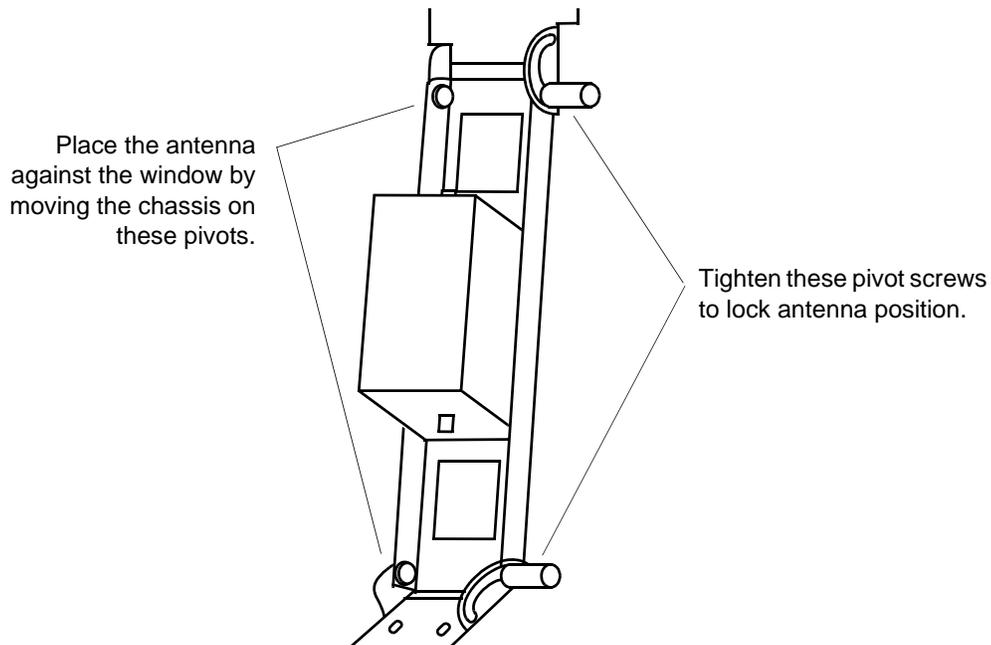

Figure 3-4 Mechanical Window Antenna Pivot Screws
3.	Tighten the pivot screws to secure the antenna (Figure 3-4).